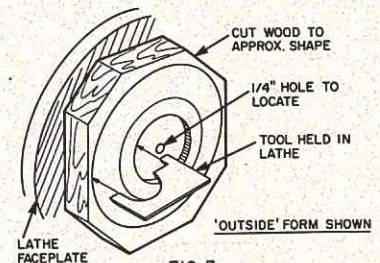

FIG. 3
d) Screw a piece of basswood to the lathe faceplate and turn a half-pattern of the outside shape. Remove most of the wood with regular lathe tools, saving the form-tool for the last 1/32" or so. This guarantees an accurately-shaped tire. Do not use the form-tool to remove all the excess wood; the screaming and burning will drive you out flying after ten minutes. (Fig. 3)